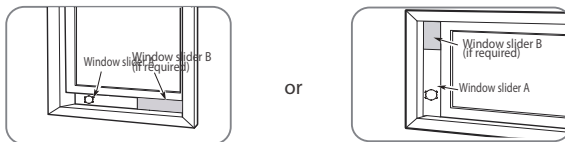

Fig. 9
2. Insert the window slider assembly into the window opening. (Fig. 9)